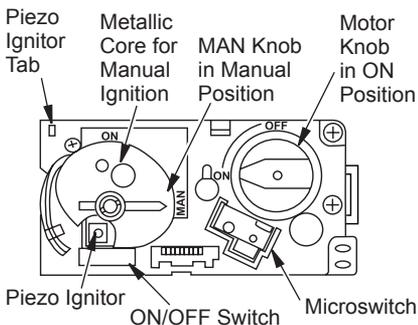

Figure 19 - Control Valve
4. Wait (5) minutes to clear any gas and then smell for gas around heater and near floor. If you smell gas, STOP! follow "B" on page 15. If you do not smell gas, go to the next step.
5. Make sure ON/OFF switch is in "-" (ON) position.
6. MAN-knob (valve) in MAN position, a metallic core is visible (see Figure 19).
1. Disconnect ignitor cable from receiver and connect to Piezo Ignitor Tab (see Figure 19 and Wiring Diagram on page 24).
5. Wait (5) minutes to clear any gas and then smell for gas around heater and near floor. If you smell gas, STOP! follow "B" on page 15.
7. MAN knob on valve is in MAN position (see Figure 19), When in MAN position you can see a metallic core.